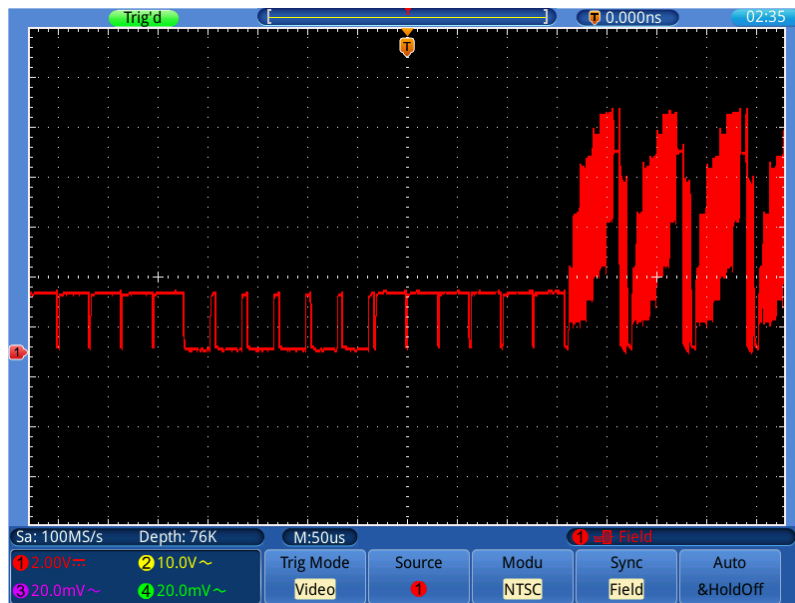

Figure 0-7 Waveform Captured from Video Field Trigger
- (1) Press the **TRIGGER Menu** button.
- (2) Select **Trig Mode** in the bottom menu; select **Video** in the left menu.
- (3) Select **Source** in the bottom menu; select ① in the left menu.
- (4) Select **Modu** in the bottom menu; select **NTSC** in the right menu.
- (5) Select **Sync** in the bottom menu; select **Field** in the right menu.
- (6) Turn the **VOLTS/DIV**, **VERTICAL POSITION** and **SEC/DIV** knobs to obtain a proper waveform display (see *Figure 0-7*).